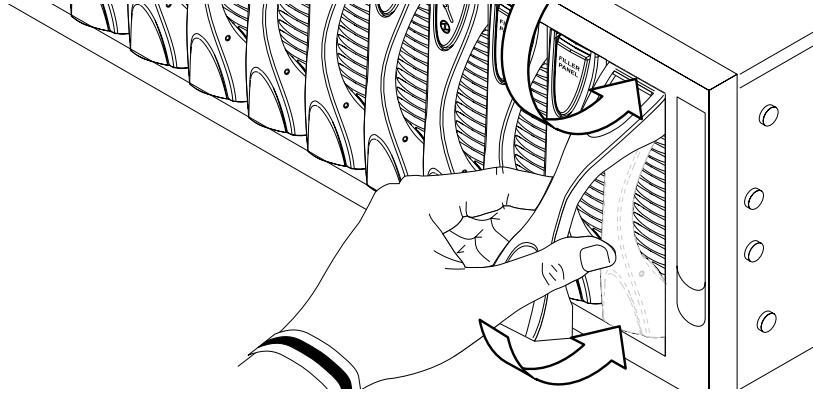

FIGURE 2-6 Closing the Blade Lever Mechanism
7. Gently push the blade into the slot until the blade latch ears, on top of the lever, are positioned in the chassis (FIGURE 2-6).
8. Complete the hardware installation by closing the blade lever fully, which engages the blade into the chassis slot (FIGURE 2-6).